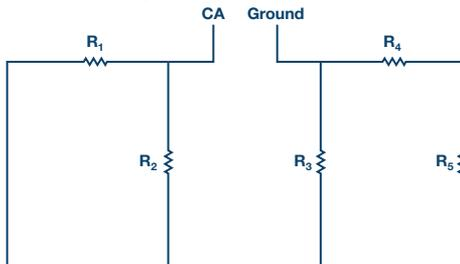

Figure 5. Measuring the Thévenin resistance, R_{TH} .
- ▶ d) Find R_{TH} : Remove the source voltage V_S and construct the circuit as shown in Figure 5. Use the ALM1000 ohmmeter tool to measure the resistance looking into the opening where R_L was. This gives R_{TH} . Make sure there is no power applied to the circuit before measuring with the ohmmeter and that the ground connection has been moved as shown.